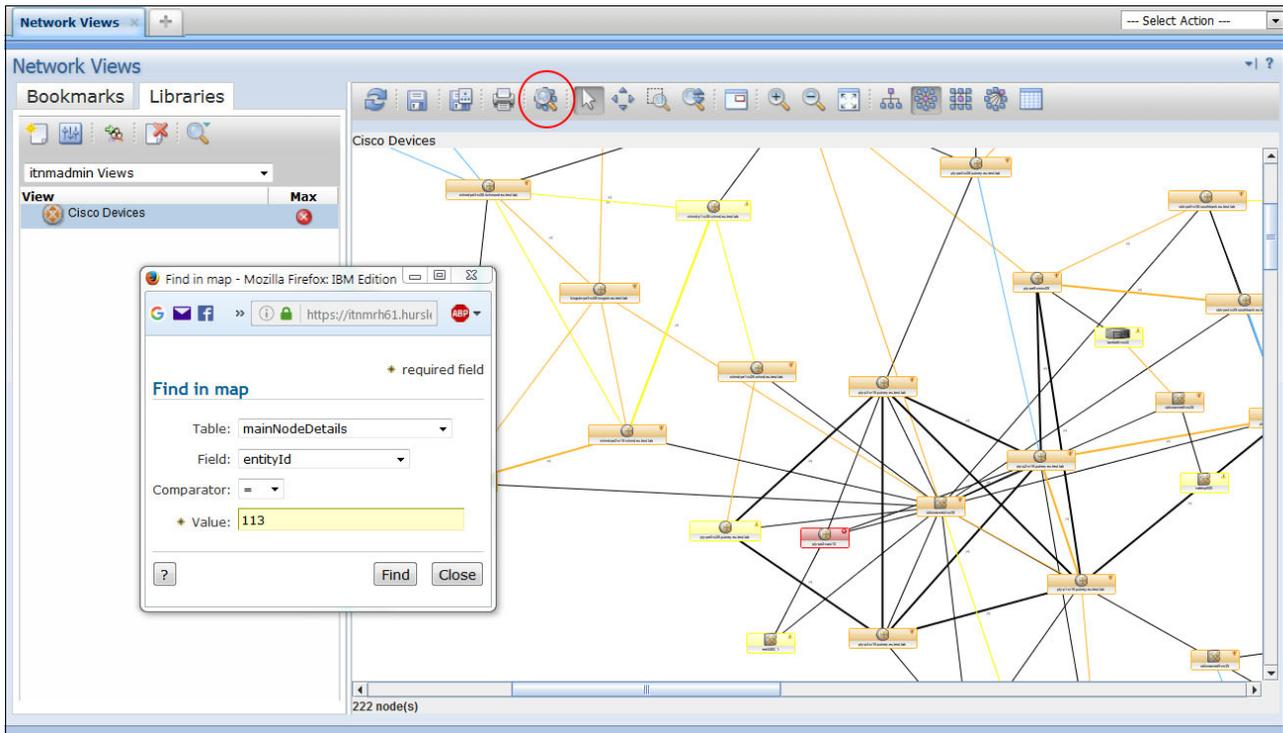

Figure 5-9 Looking for the problematic device from Topology Map
10. He returns to the Topology Map view and clicks the **Search** icon to find the problematic device, as shown in Figure 5-9.